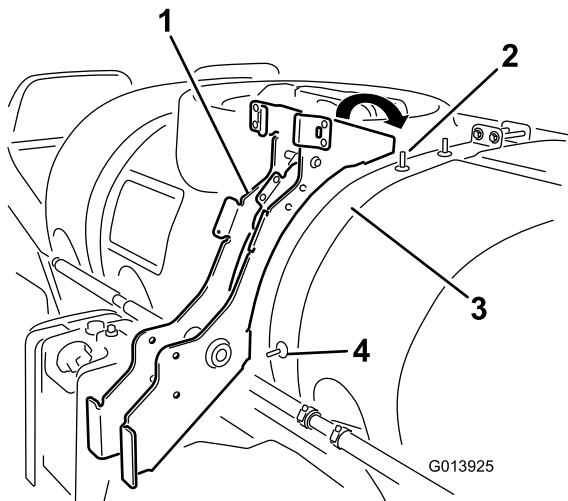

Figure 6
3. Install the frame over the tank strap aligning the lower hole in the frame with the exposed bolt in the side of the tank strap and the upper hole with the upper bolt in the tank strap as shown in Figure 6.